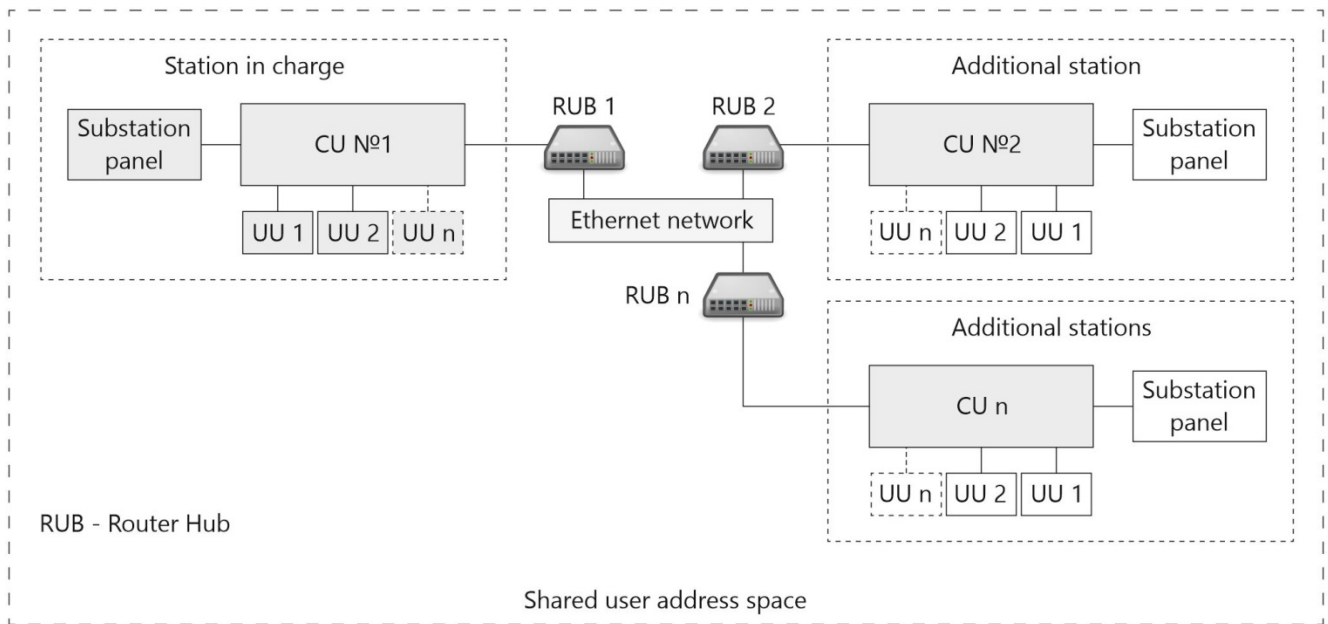

Figure 4 – Example of multichannel communication based on several CU connected via Ethernet
Note – The System may consist of several CUs interconnected via Ethernet network (for the description of System composition based on several CUs 1.4.3c); sample connection is shown in Figure 4.
c) **Multichannel communication based on several CUs connected via Ethernet** – to organize communication and unite two or more systems (different CUs) in a single one. Users are connected through the CU using Ethernet-connection (see Figure 4), forming shared user address space.